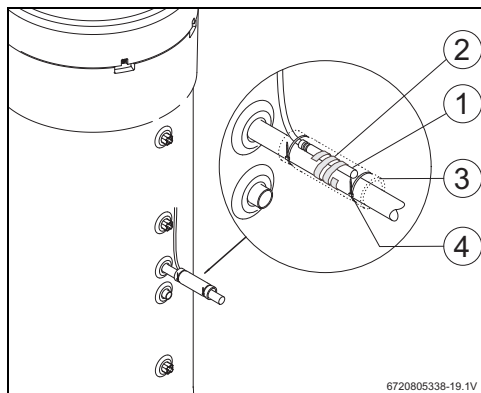

Fig. 12
- ▶ Position the temperature sensor connected to the accessories (Fig. 12, [1]) as shown in Fig. 12.
- ▶ Fasten the temperature sensor to the water pipe using the plastic spiral supplied (Fig. 12, [2]).
- ▶ Wrap the temperature sensor in insulating material (Fig. 12, [3]).
- ▶ Secure the insulation using the 2 cable ties supplied (Fig. 12, [4]).